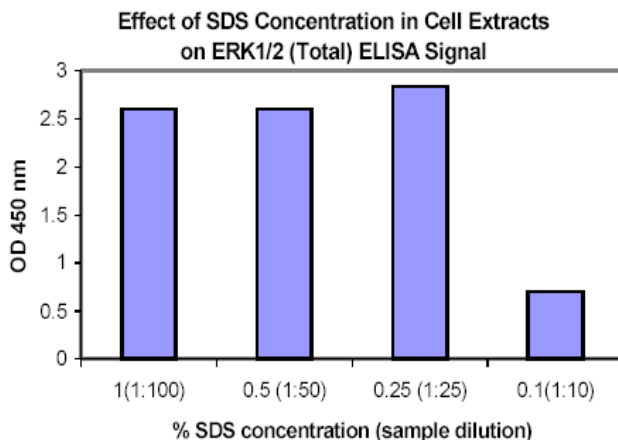

Figure 1
- The treatment chosen should be optimized for each experimental method. Figure 1 and 2 show the examples of both treatments:
4. The data in Figure 1 show that cell extracts with the addition of 0.25-1% SDS generate higher signals than the extract with 0.1% SDS.